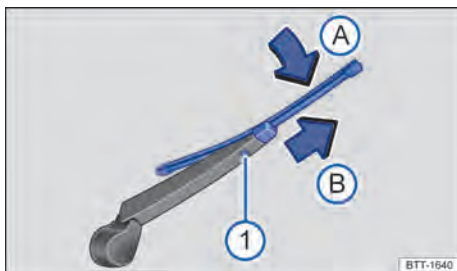

Fig. 170 The rear of the vehicle: changing the rear window wiper blade
① Release button.
3. Press and hold the release button → Fig. 170 ①.
4. Tilt the wiper blade in the direction of the wiper arm → Fig. 170 (A) and pull it off in the direction of the arrow (B) at the same time. You may need to use some force to do this.
5. Insert a new wiper blade with the **same length and design** onto the wiper arm in the opposite direction of the arrow → Fig. 170 (B) and push it on until it engages. The wiper blade must be in folded-down position to do this (A).